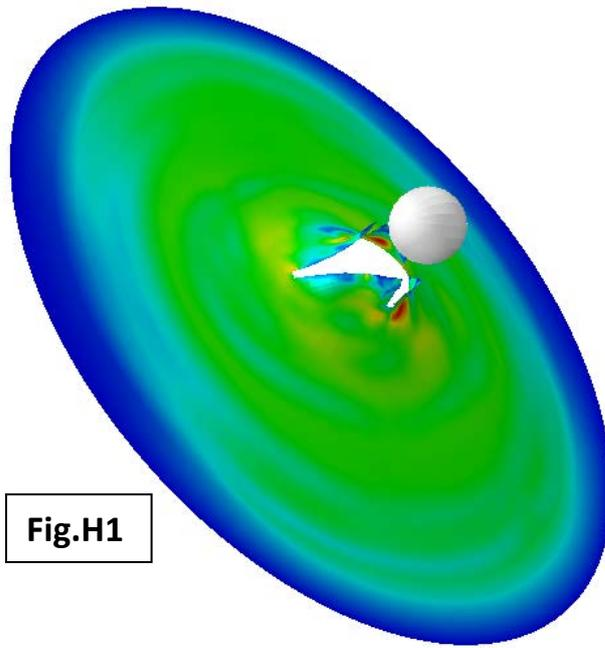

Fig.H1
1. From the main menu bar select **Results→Field Output**. From the **Field Output** dialogue box select **Mises Stress**. Make a note of whether or not the plate has fully perforated (i.e. **Fig.H1**). If not, increase the impact velocity in the **Load** module. If it has, decrease the impact velocity in the **Load** module. Continue to do this until you converge upon the ballistic limit.